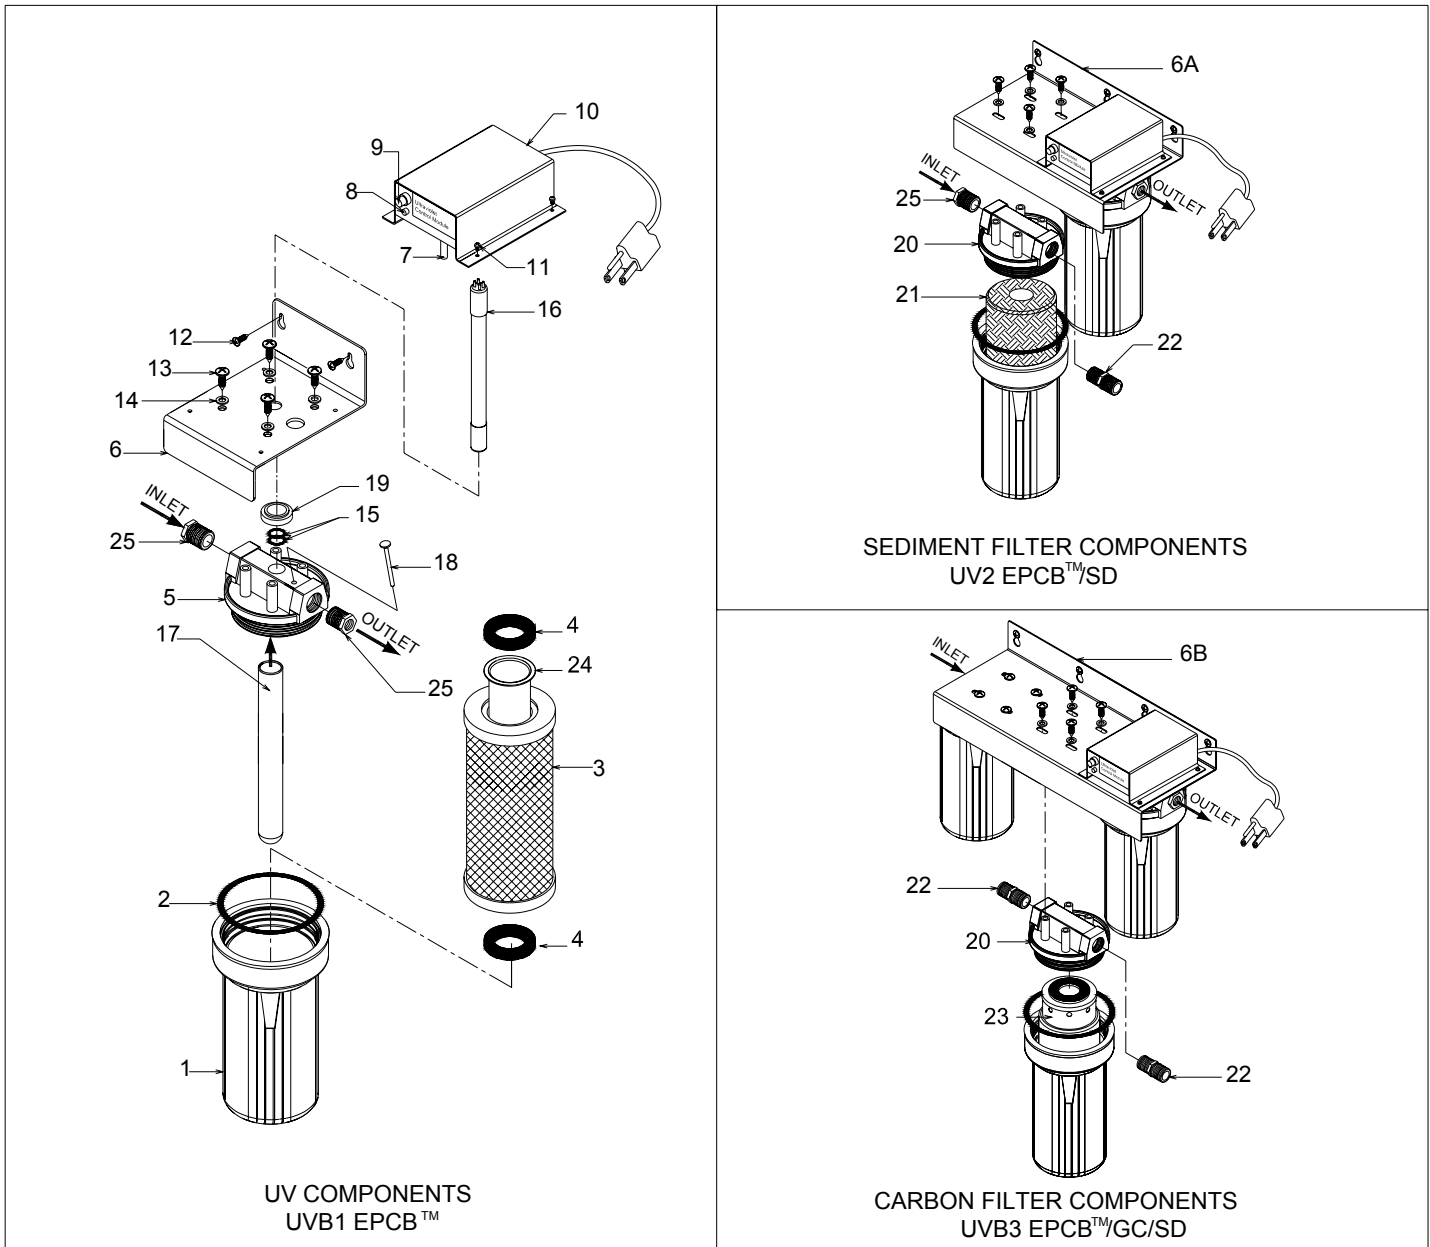

Figure 1 Exploded Schematic, **PURA UVB Series**
NOTE: All Items refer to Figure 1.
2. Install EPCB™ Sleeve (Item 24) into EPCB™ Carbon Filter (Item 3) as shown in Figure 1.
3. Insert filter/sleeve assembly into sump as shown in Figure 1 with both Filter Gaskets (Item 4) in place.
5. **For UVB2 & UVB3 Models only:** Remove Sump (Item 1) from Filter Head (Item 20). Install Filters (Items 21 and 23) as shown in Figure 1. Install sump onto filter head.
CAUTION: Verify that inlet and outlet ports are connected to appropriate inlet/outlet pipes (see Figure 1).